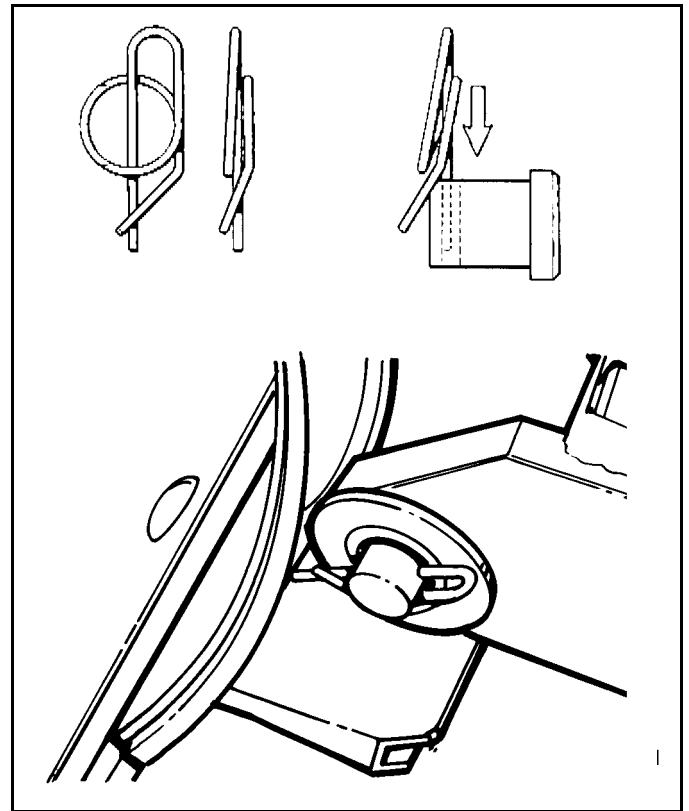

Figure 1-10
4. Secure pivot pins by installing flat washers and inserting special cotter pins in Pivot Pin hole until loop of Special Pin is engaged over end of Pivot Pin. (See Figure 1-10)